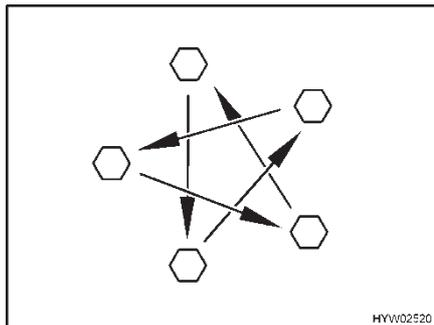

Fig. 224 Tighten the wheel nuts or wheel bolts cross-wise
- Check regularly that the wheel nuts or wheel bolts are firmly seated. Re-tighten the wheel nuts or wheel bolts of a changed wheel after 50 km (30 miles) (Fig. 224). See section 14.5.2 for tightening torque.
- When using new or newly painted wheel rims, re-tighten the wheel nuts or wheel bolts once again after approx. 1,000 to 5,000 km (600 miles to 3,000 miles) (Fig. 224).
- ▷ Tighten the wheel nuts or wheel bolts cross-wise (Fig. 224).